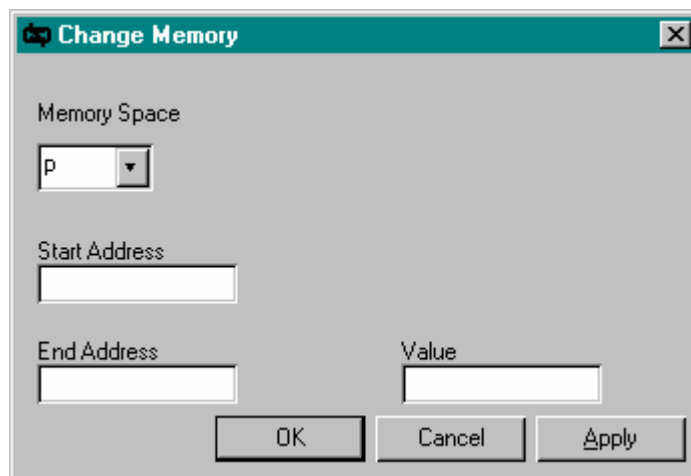

Figure 5-6. Changing the Value in Memory
1. From the **Modify** menu choose **Change Memory**. The dialog box in Figure 5-6 appears.